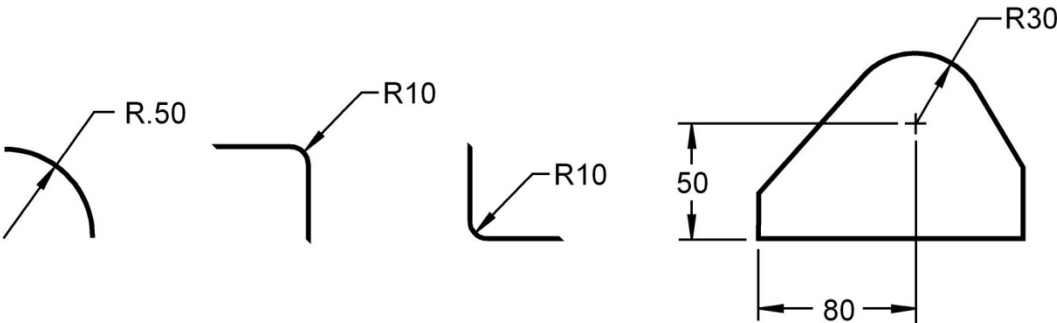

Figure 2-7: Dimensioning radial features.
- f) If a dimension is given to the center of a radius, a small cross is drawn at the center. Where the center location of the radius is unimportant, the drawing must clearly show that the arc location is controlled by other dimensioned features such as tangent surfaces. Figure 2-7 shows several different types of radius dimensions.